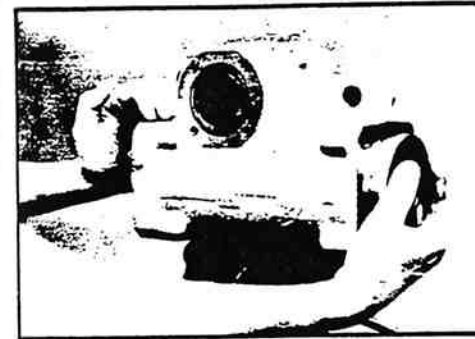

Figure 11-36. Removing the Rack Piston.
34. Remove the rack piston (10) worm shaft (5a) assembly from the gear housing (figure 11-36).